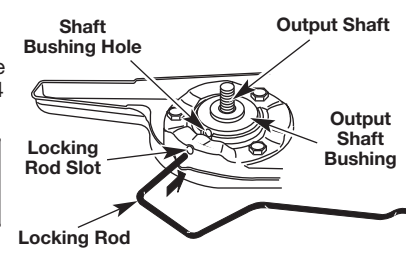

Fig. 11
3. Align the shaft bushing hole with the locking rod slot and insert the locking rod into the bushing hole (Fig. 11).
1. Align the shaft bushing hole with the locking rod into the bushing hole (Fig. 11).